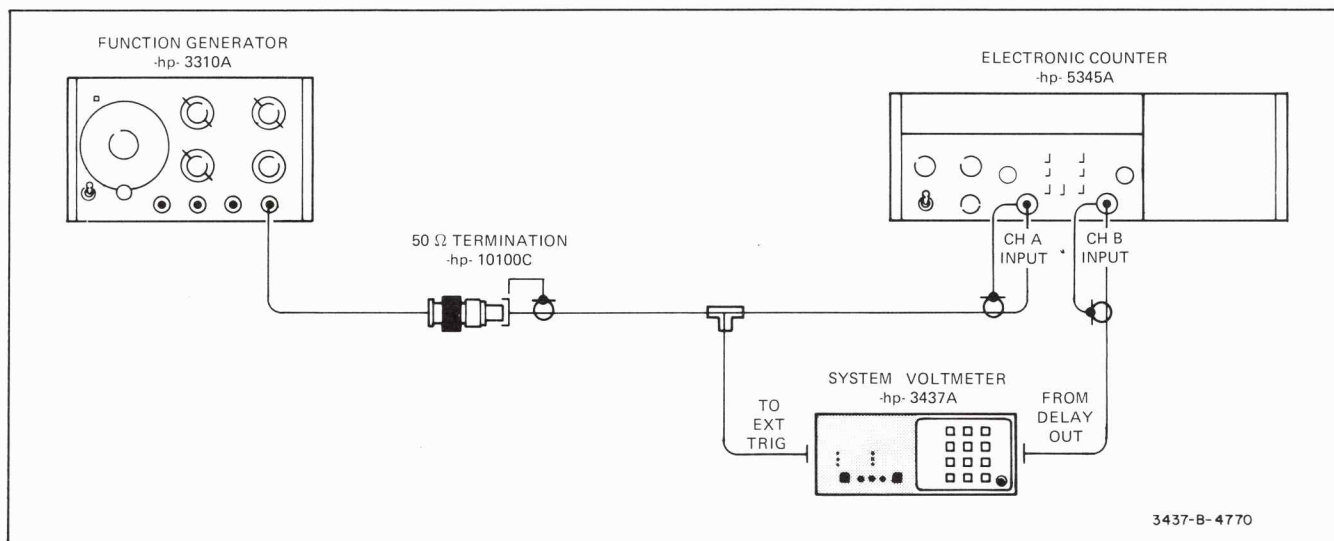

Figure 5-6. Delay Accuracy/Jitter Test Set-Up.
a. Connect the equipment as illustrated in Figure 5-6.